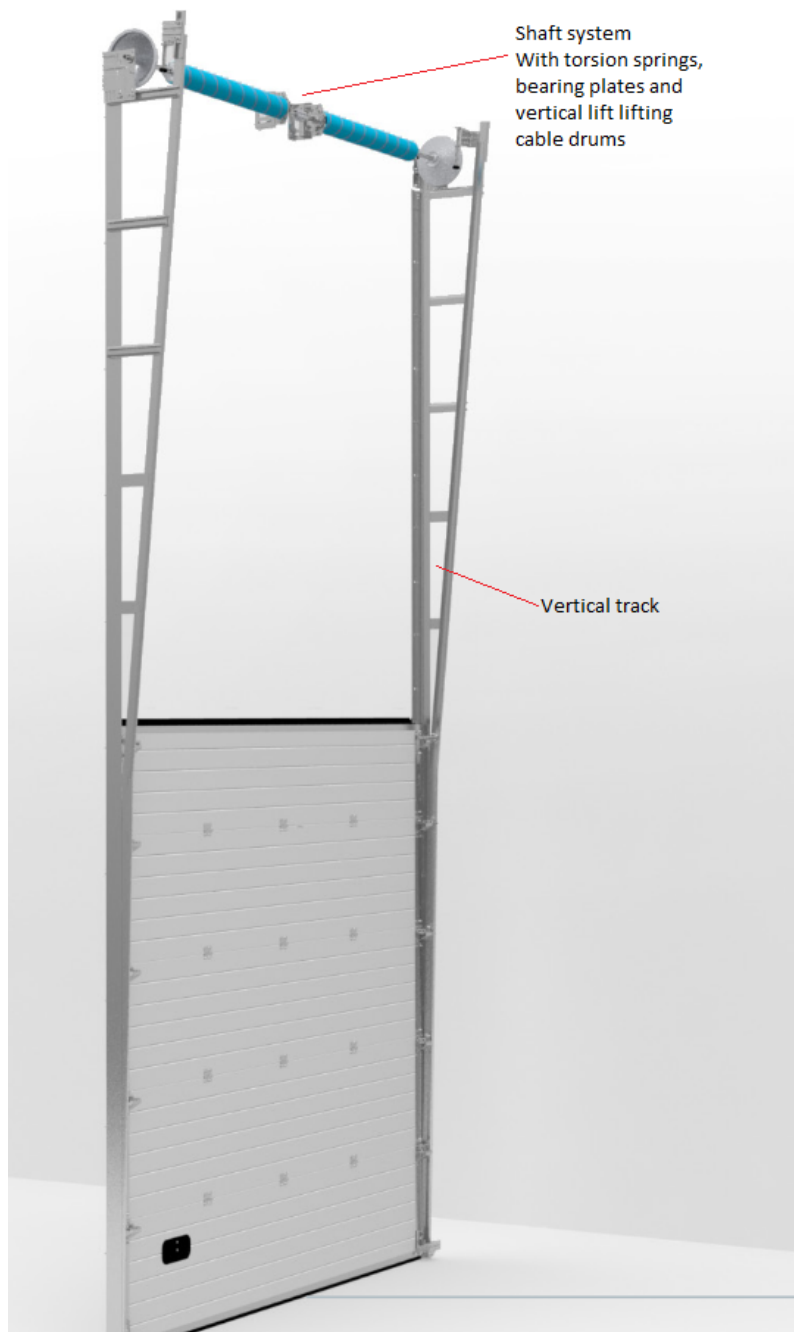

Figure 5: Vertical lift sectional overhead door
Fifth type of door is vertical lift (VL) it has no horizontal track. As the name implies the door is lifted vertically from the daylight opening with a slight slope from the wall. Spring system is located on the top of vertical tracks or above them, see figure 5. It is used mostly in large warehouses where the ceiling height is high. VL requires minimum head room of at least the same height as the daylight opening height.